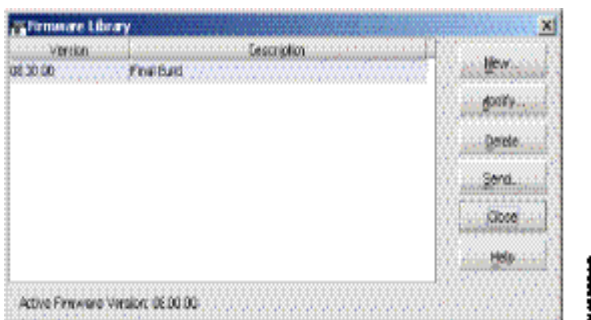

Figure 4-18 Firmware Library Dialog Box
1. Select *Firmware Library* from the *Maintenance* menu (*Maintenance>Firmware Library*). The *Firmware Library* dialog box appears (Figure 4-18).
2. Select *Firmware Library* from the *Maintenance* menu. The *Firmware Library* dialog box appears (Figure 4-18).